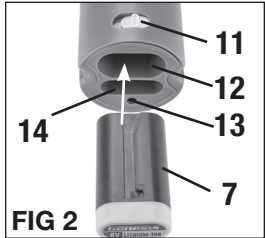

FIG 2
INSTALLING OR REMOVING THE BATTERY PACK (FIG 2)
- To install the battery pack, insert the battery pack (7) from the bottom of the tool all the way into the battery port (12) until it locks in place with a click, as shown in FIG 2.
- To remove the battery pack, slide the battery locking tab (11) to the left to release the battery pack, then pull the battery pack out.
CHARGING THE BATTERY (FIG 2)
- Insert the inflator nozzle (9-Fig 1) into the air outflow port (14-Fig 2).